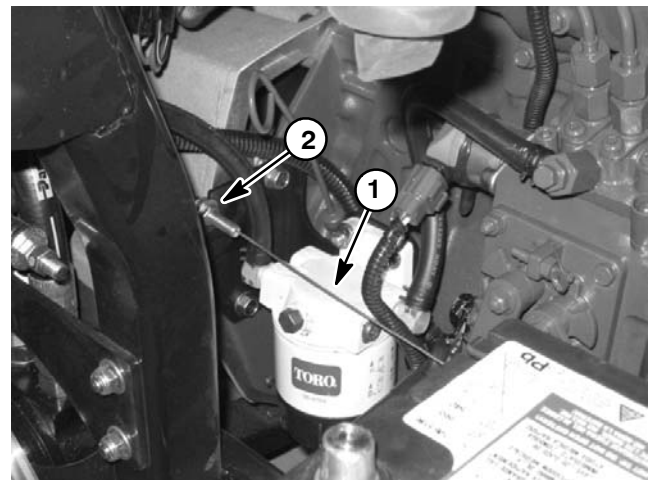

Figure 2
3. If necessary, position of throttle control cable jam nuts can be adjusted until speed control lever contacts high speed screw when throttle control lever is at **FAST** (detent) position (Fig. 2).